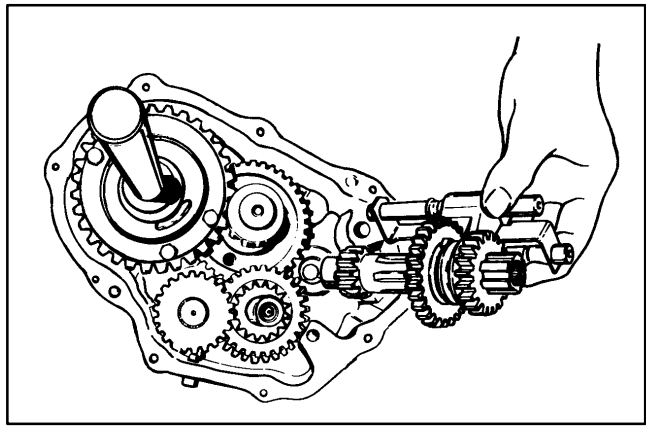
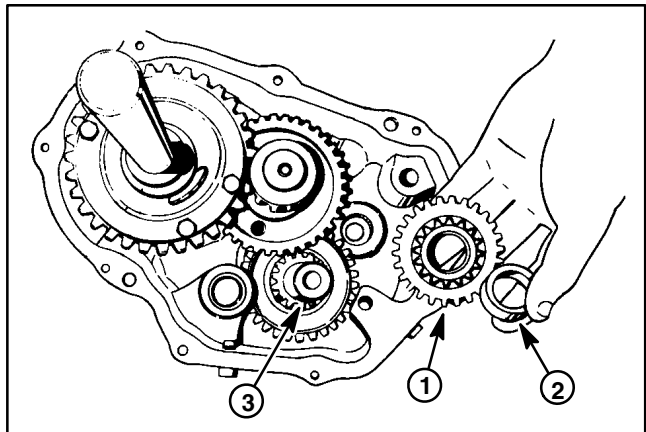

Figure 12
Figure 13
9. Remove the reverse idler gear (item 66), spacer (item 65) and reverse idler shaft (item 64) from the boss in the cover. Note that spacer goes between the gear and cover and the gear bevels go down.
10. Squeeze top end of shifter rods and lift shifter assembly from cover (Fig. 12). Shifter assembly includes pinion shaft (item 25), shifting gears (items 32 and 33) and shift rod assemblies (items 8 and 13). See Shifter Assembly Service in this section for information regarding shifter service.
11. Remove low gear shaft and pinion (item 62), and spur gear (item 67). Separate the gear and shaft. Locate and retrieve thrust washer (item 61).
12. Remove spacer (item 37) and two gear cluster (item 27) from brake shaft (Fig. 13).